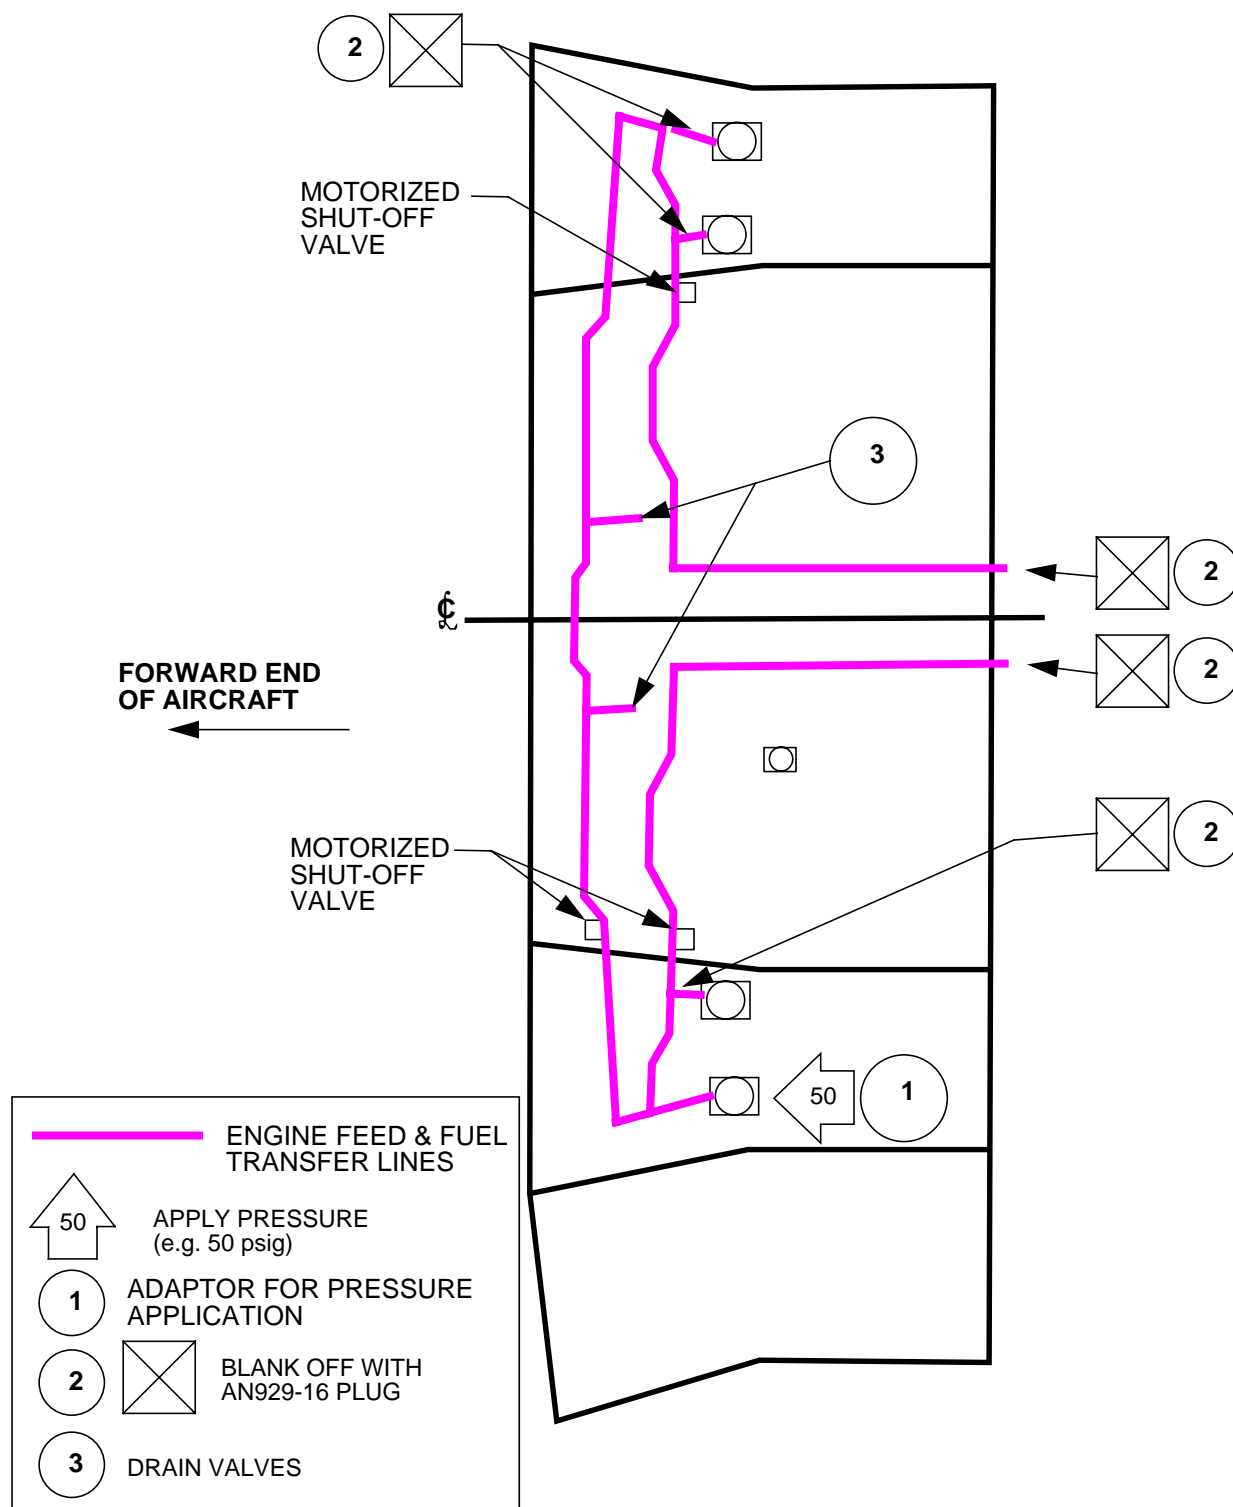

Figure 6 - Engine Feed & Fuel Transfer Line Pressure Test
5.3.2.5 Isolate the **transfer and engine feed line** as follows (see Figure 6):